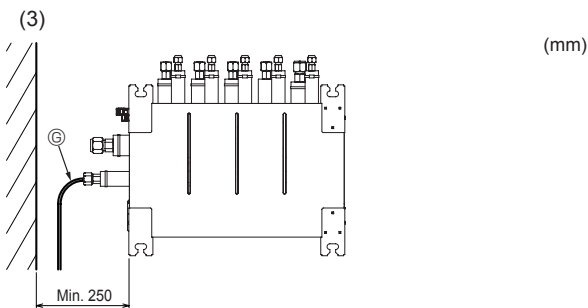

Fig. 4-10
(3) Vista Superior (Fig. 4-10)